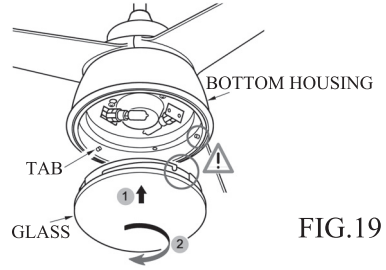

FIG.19
5. Carefully lift the glass shade up inside the light kit plate as far as it will go. Rotate the shade in a clockwise direction until it is held tightly in place by the three tabs (see Fig.19)